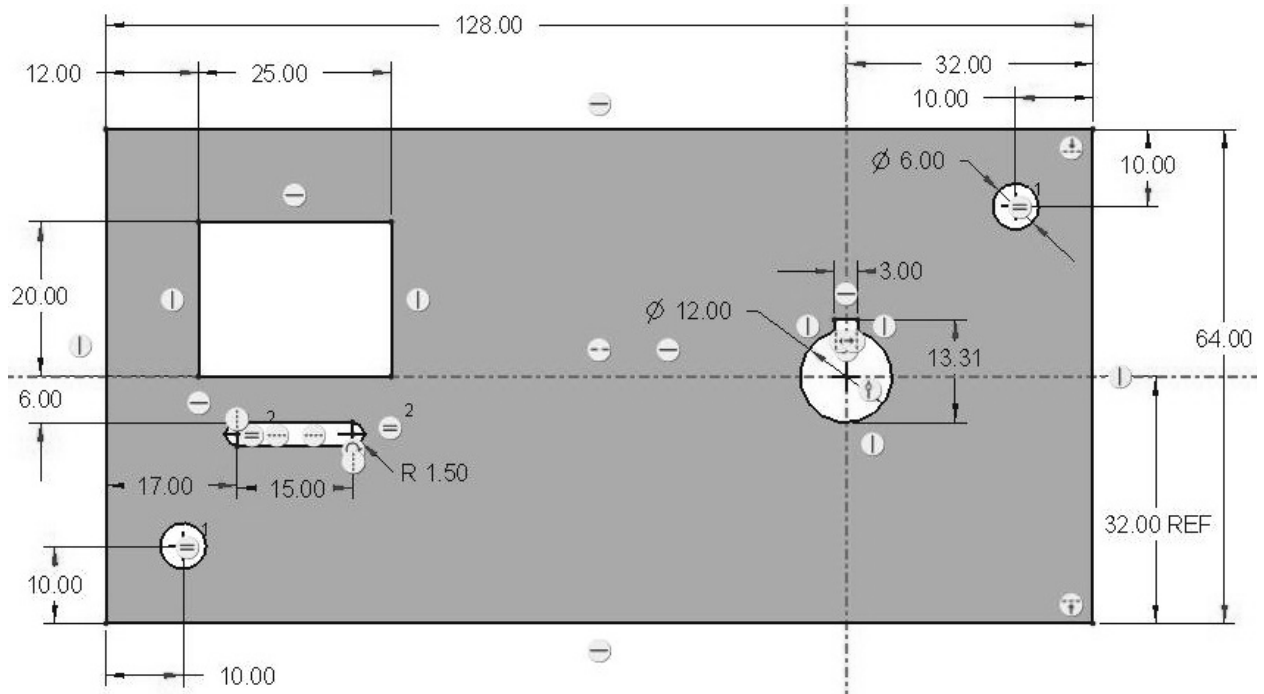

Figure 3-76 Problem 7—Front Cover Plate
- 3.7 Draw the "front_cover_plate" (Figure 3-76). **Design Intent**—All features are located from the outside edge of the cover plate, and are not relative to each other. Draw centerlines through the 12-mm hole's center. (>File>Options>Sketcher, change to 2-decimal places before sketching.)